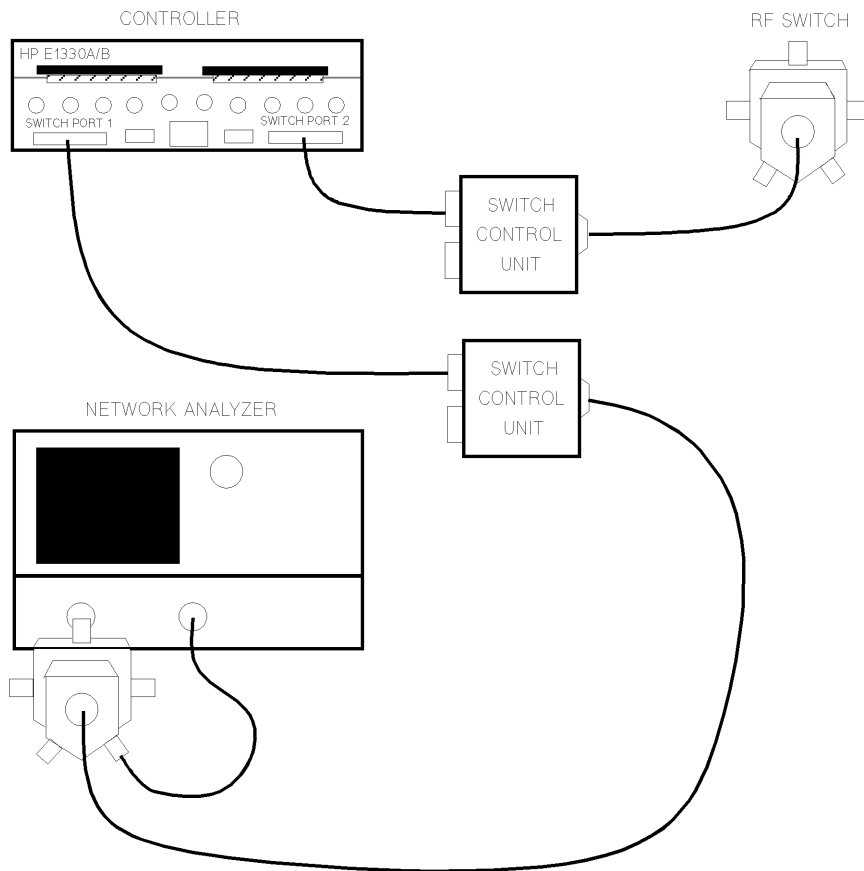

Figure 2-5 RF Switch Test Setup
1. Check to make sure that the Multiple Channel Controller is connected to each switch control unit. An example of this setup is shown in Figure 2-5 on page 2-13.
3. Connect the switch to the network analyzer. An example of this setup is shown in Figure 2-5. Note that all of the switch ports will be tested, so make sure that there is enough room to connect all of the ports to the network analyzer.